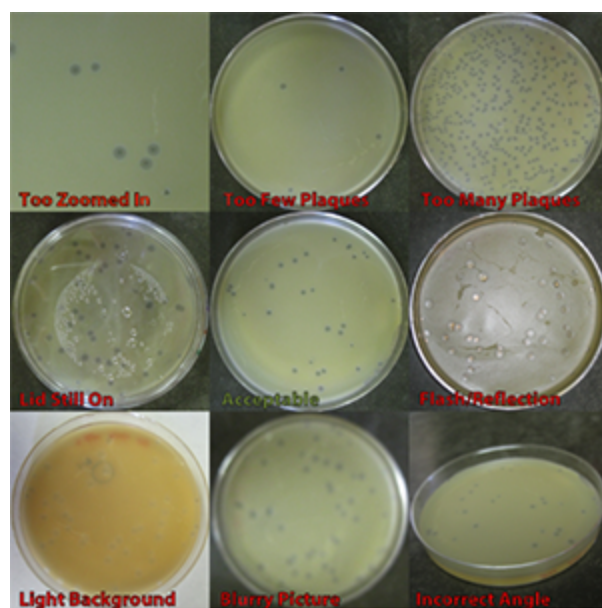

Figure 12.3-1. Examples of poor plate pictures compared with an acceptable plate picture suitable for uploading to the Actinobacteriophage Database.
- I. Look at the examples in Figure 12.3-1 below. Is your photo acceptable?